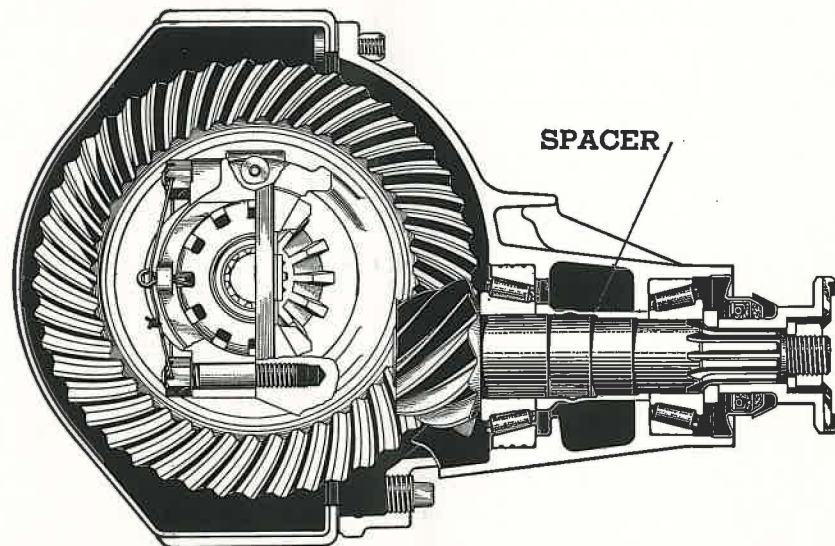

Fig. 21—Rear Axle Differential Carrier Assembly. Note Crimp Near Rear End of Pinion Spacer
The rear axle used on Packard cars is a semi-floating unit with hypoid driving gears. Details of the carrier assembly are shown in Fig. 21. The housing cover is welded in place. The driving pinion carries only a bearing adjustment. The pinion mesh position is fixed and non-adjustable. Wheel bearings are semi-permanently lubricated due to the large lubricant reservoir formed by the double oil seals at outer end of each shaft.
**Pinion Shaft Bearings:** Bearings should be adjusted to a preload drag of 25 to 30 inch pounds. Stated in other words, the self-locking flange nut should be tightened until it buckles the spacer, Fig. 21, sufficiently to require a pull of 5 to 6 pounds (measured on wrench handle 5" out from center of socket) to rotate the pinion shaft.